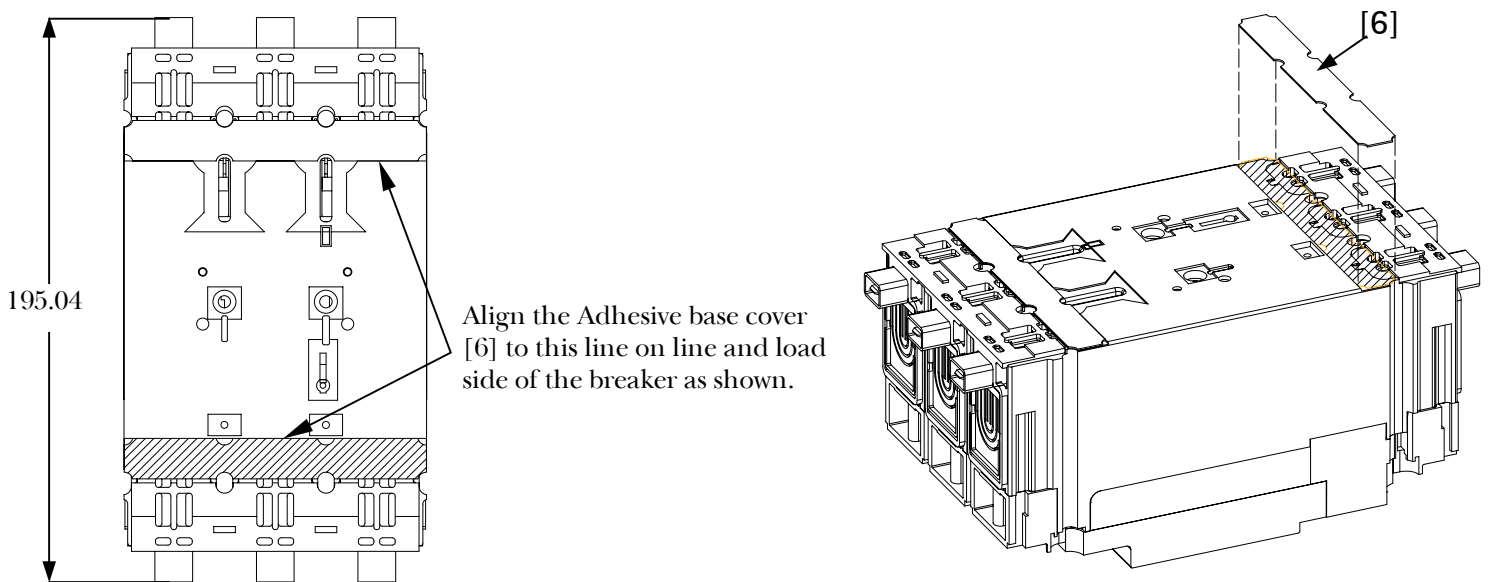

Figure 3. Installation of adhesive base cover on lug cover and FE breaker interface
3. Peel off the cover on the Adhesive Base Cover [6] and affix on the lug cover and breaker interface on line and load sides as illustrated in Figure 3.